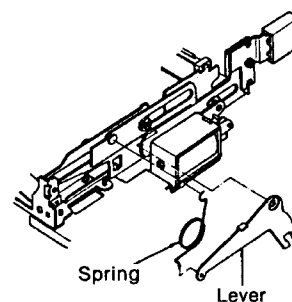

Fig. 12
- (1) Insert the lever and spring in mechanism, as shown in fig. 12.